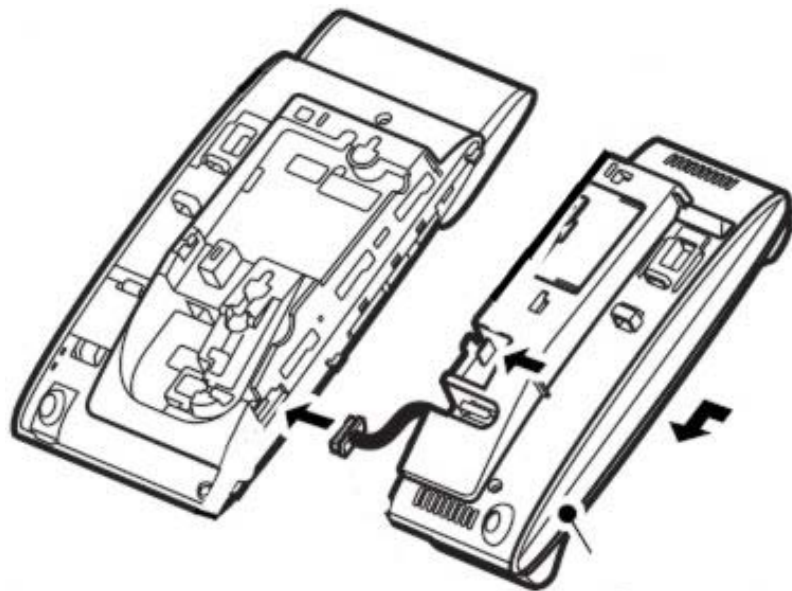

Figure 6-39 Attach PSA-L Unit to the Multiline Terminal
11. Connect the serial connection cord (refer to Figure 6-39 Attach PSA-L Unit to the Multiline Terminal on page 6-46) from the PSA-L UNIT to the terminal body.